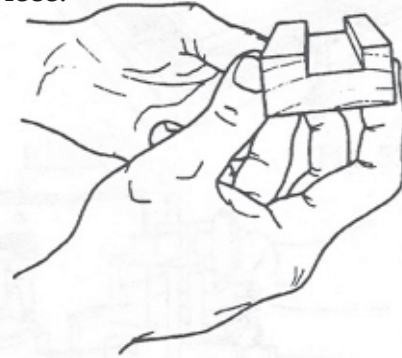

Figure D-64
2. Cut a groove 3/4" wide x 1/4" deep down the middle for the entire length, as in Figure D-64. Place the cut toward the "top" side of the workpiece.